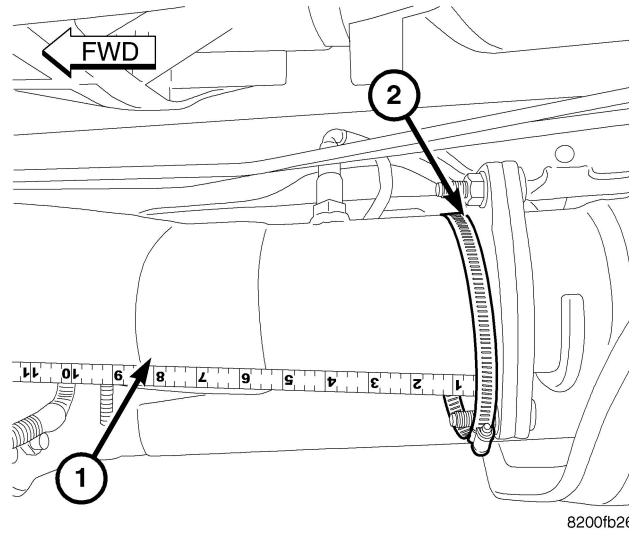

Fig. 1 MEASURE 7" FORWARD FROM FLANGE
3. Locate the Diesel Oxidation Catalyst (DOC) downpipe to NOx Absorber Catalyst (NAC) flange. Measure and mark a line at a distance of 7" (18 cm) in front of this flange (Fig. 1).